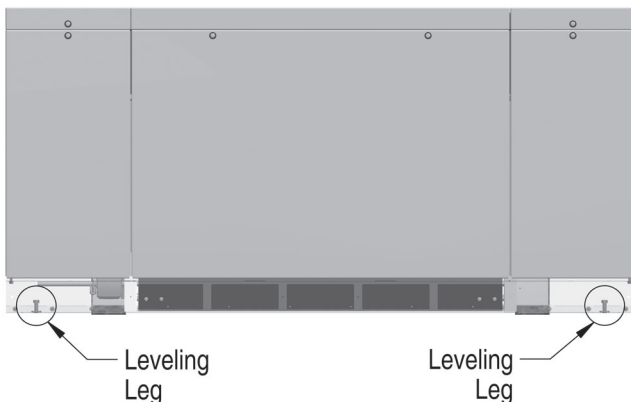

Fig. 3 — Leveling Leg Location
3. Place the unit in position and use the leveling legs to ensure that the unit is level in both directions and also plumb. Remove the front kick panel to access the leveling legs (see Fig. 3). Make sure that the foam gasket on the back of the unit forms a tight seal between the unit and the wall.